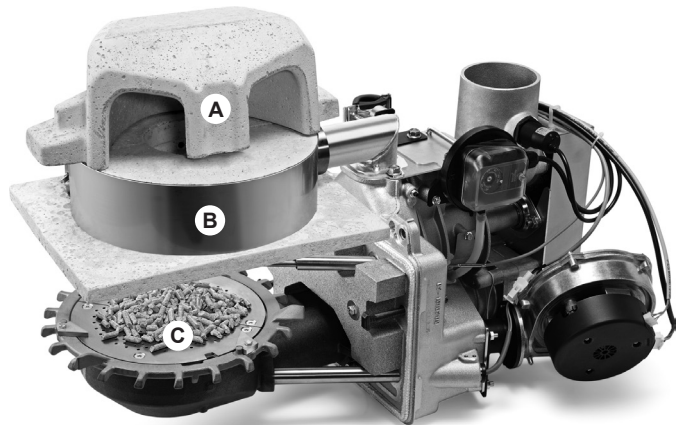

Fig. 09
4. Clean the post-combustion ring (B, Fig. 09) incl. air nozzles and check the seal for the secondary air pipe.
5. Clean dust separator (A, Fig. 09).